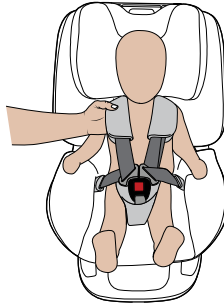

Figure 23
Step 1. Before pulling on adjuster strap to tighten harness, pull on harness shoulder straps first to remove slack from the waist area (Figure 23).